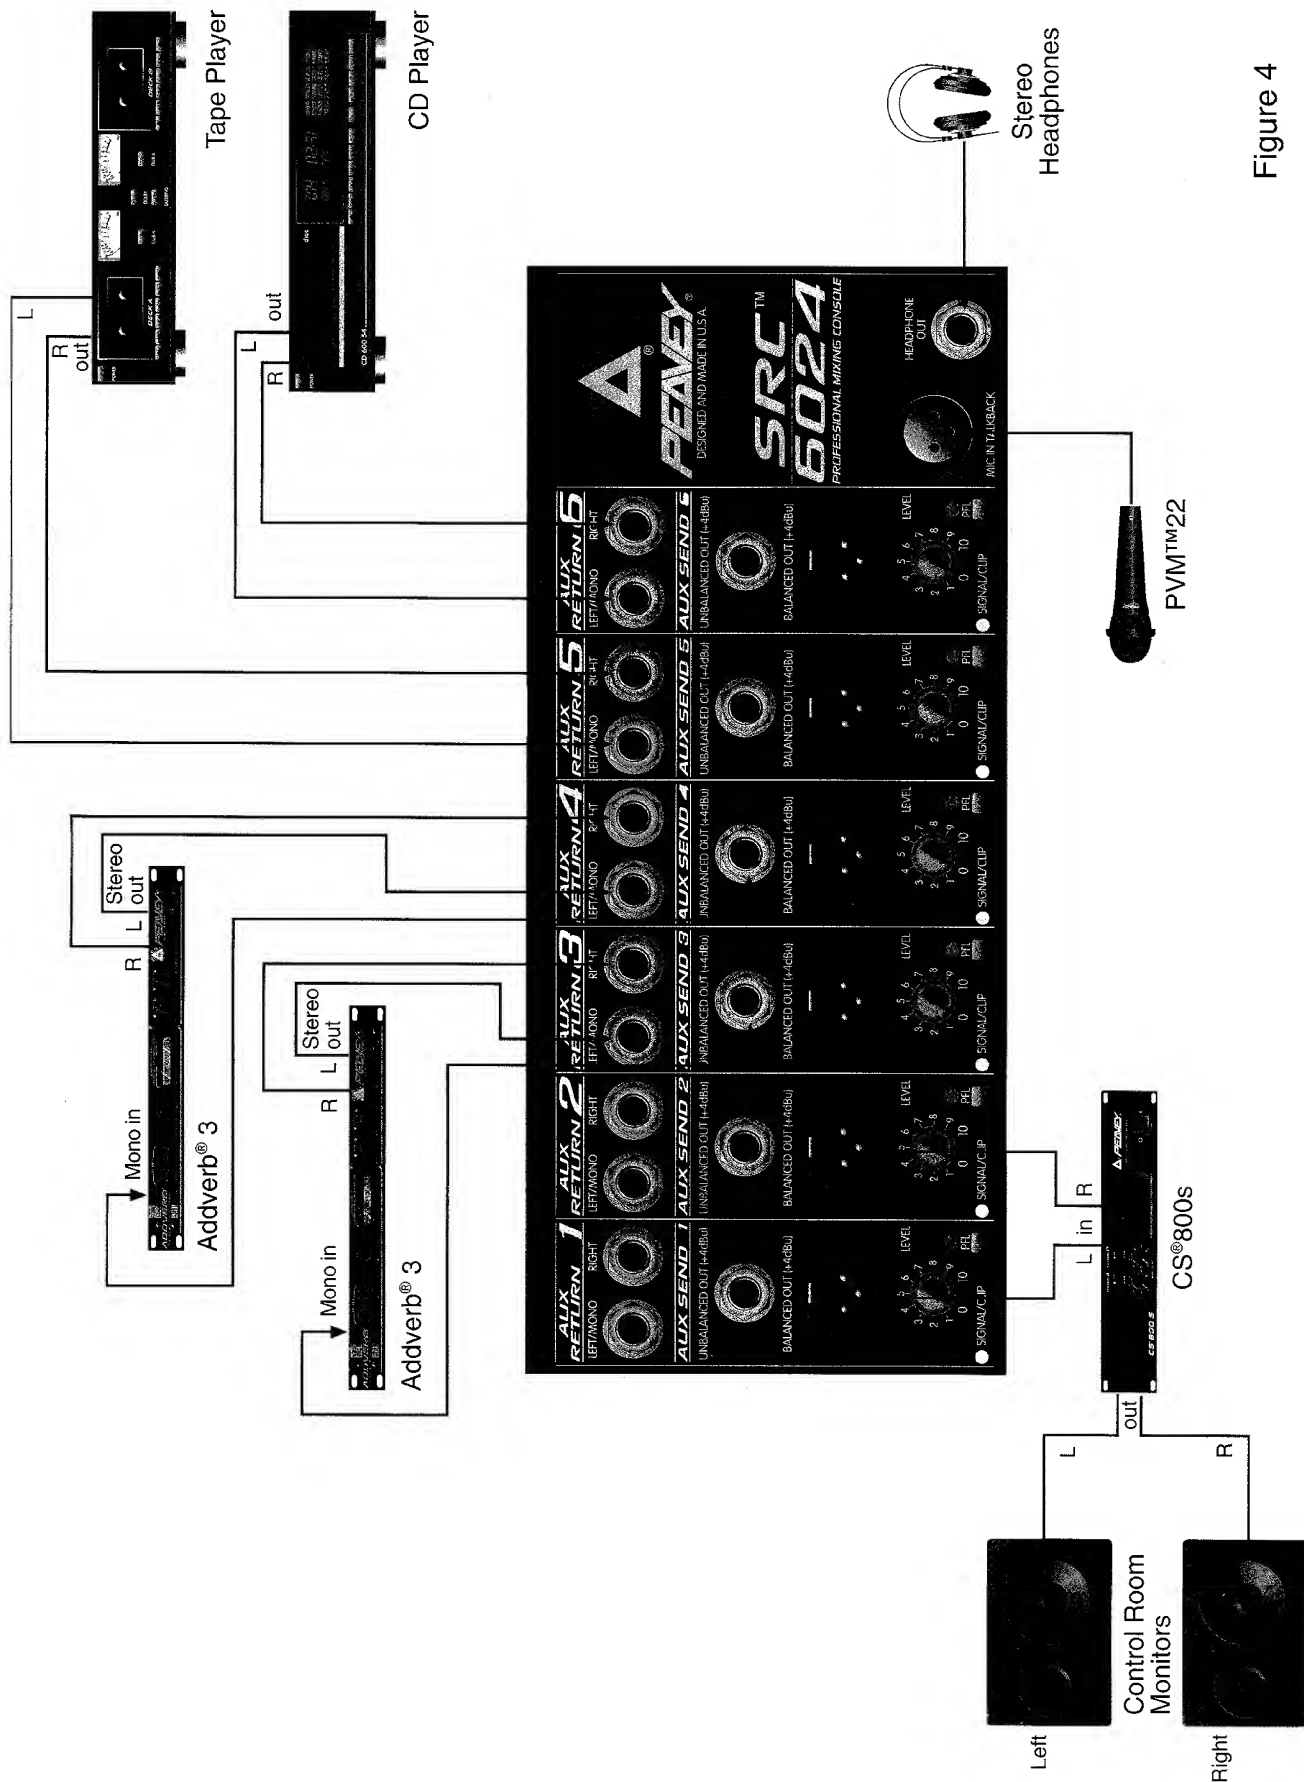

Figure 4
3. Connect the monitor power amplifier input to the AUX SEND 1, 2, 3, 4, 5 or 6 output (Fig. 4). Two monitors are supported (AUX 1&2 dedicated PRE FADE, PRE EQ), with four additional available, if AUX 3/4 and AUX 5/6 are also used for monitors (PRE) and not for effect sends (POST).